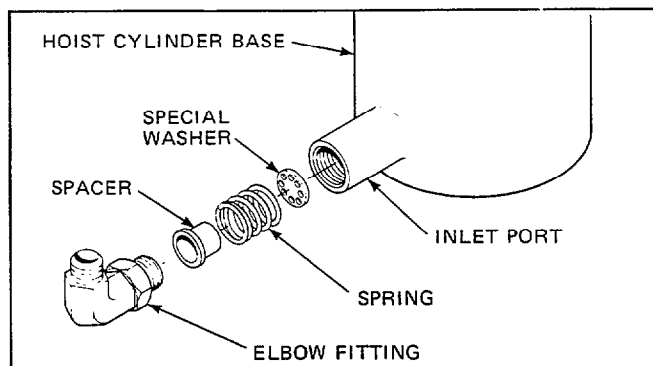

Figure 17. Lowering Control Valve Assembly
- Remove the elbow fitting from the base of the hoist cylinder. Be prepared to catch the valve spacer and spring. Remove the lowering control valve special washer. See Figure 17.
- Replace the lowering control valve components as shown in Figure 17.